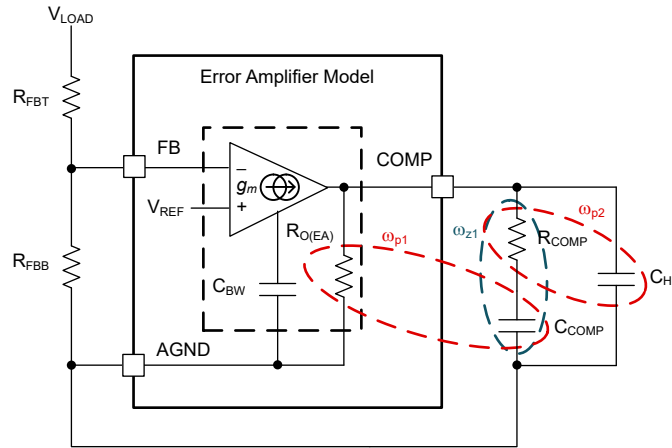

图 7-3. Error Amplifier and Compensation Network
図 7-3 shows a type-II compensator using a transconductance error amplifier (EA). The dominant pole of the EA open-loop gain is set by the EA output resistance, $R_{O(EA)}$, and effective bandwidth-limiting capacitance, C_{BW} , as shown by 式 34.